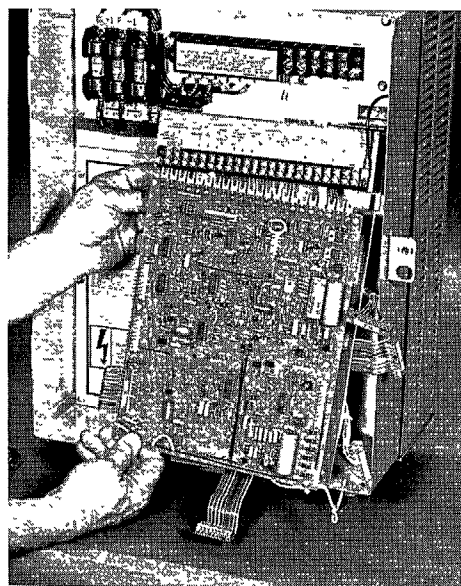

FIGURE 26
8. Carefully withdraw the complete Regulator/Inverter Control card assembly from 2TB terminal board and the slotted card assembly bracket holes. Be careful not to damage the loose ribbon cables. (see Fig. 26)